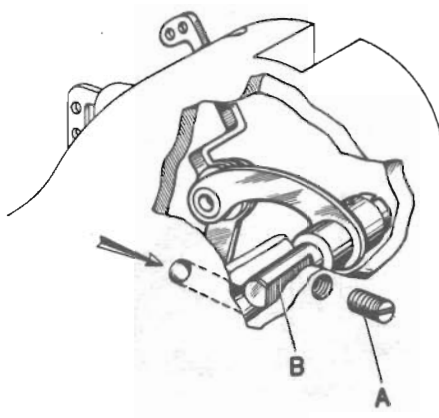

Fig. 23
- connecting rod pin (Fig.23); it is sufficient to loosen the set-screw **A** which secures the pin **B** and to remove it by means of a small rod.